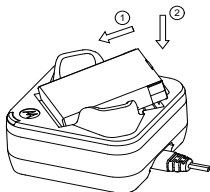
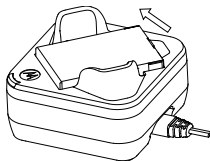

Figure 4: Sliding the battery into charger pocket
Figure 5: Lifting the battery from the charger pocket
4. To charge a battery, insert the battery into the charger's pocket by (see Figure 4 and Figure 5):